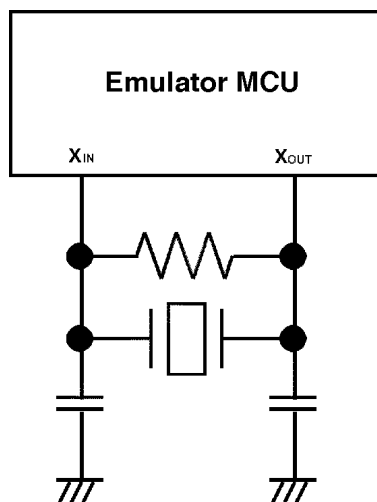

Figure 3.2 Circuit in which oscillation does not occur
- Make note of the fact that in the oscillator circuit shown in Figure 3.2 where a resonator is connected between the X_{IN} and X_{OUT} pins, oscillation does not occur because a flexible cable, buffer IC and other devices are used between the emulator MCU and the target system (same for X_{CIN}).